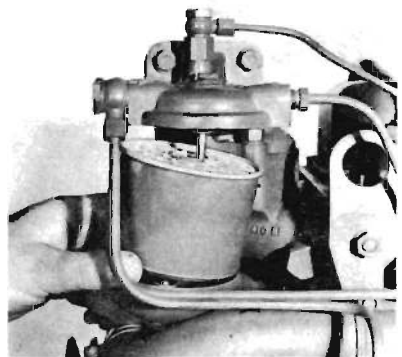

Fig. 12
3. Either lower filter bowl clear and discard element or lower base and discard element (see fig. 12).